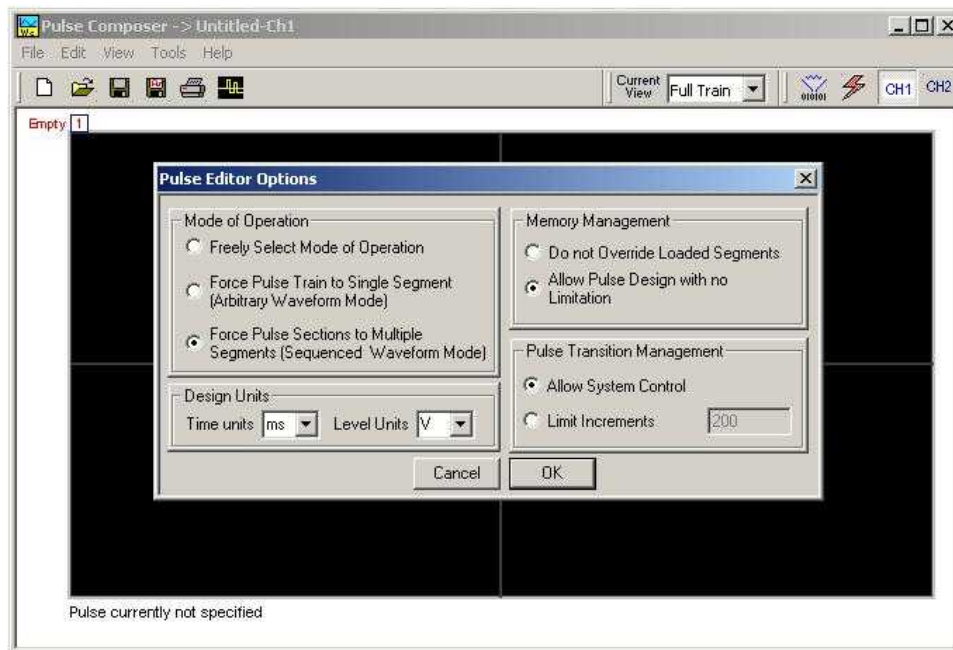

Figure 4-35, Selecting Pulse Editor Options
page. Another step before you design your pulse train is to set the design parameters in the options menu that will determine the way that the pulse will be distributed in your waveform memory. Click on View→Options and refer to Figure 4-35 throughout the following description.
As shown in Figure 4-35, the pulse editor option dialog box is divided to functional groups: Mode of operation, Design Units, Memory Management and Pulse Transition Management. These groups are described below.
*Mode of Operation* – This describes the new setting of the operating mode. This field could display one of two options: Arbitrary or sequenced. Pay attention to the note (\*) that says “Select from the menu View>>Options” Since we checked the Force Pulse Train to Single Segment (see Figure 4-35), the generator determines that the waveform mode be arbitrary and only one segment can be loaded with the pulse train.